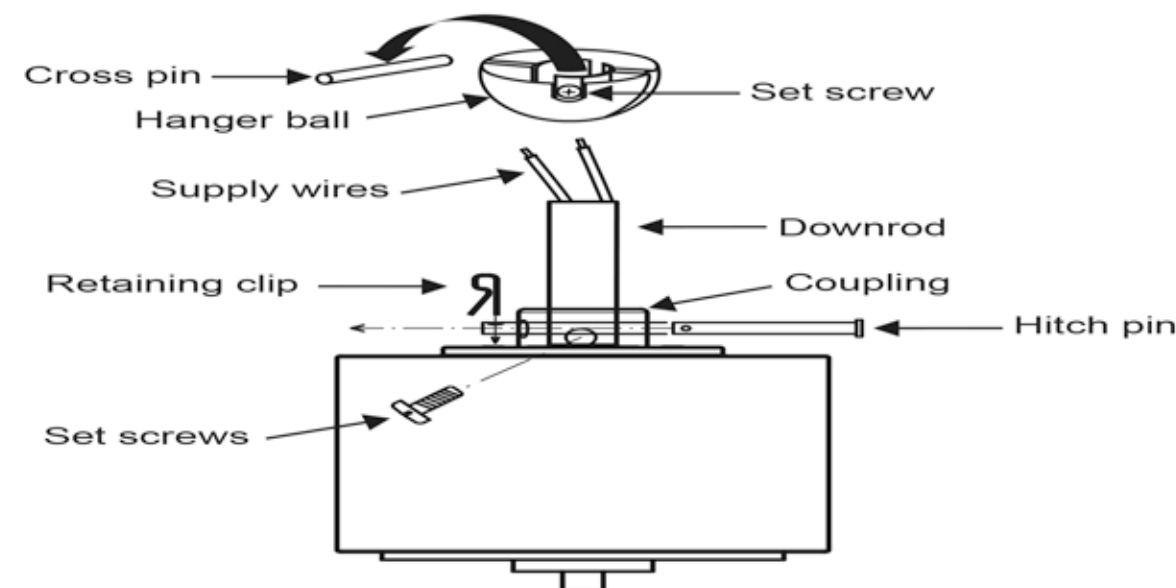

Fig.5
Step 4. Remove the hanger ball from the downrod assembly by loosening the set screw, removing the cross pin and unscrewing the ball off the rod. (Fig.5)
Step 5. Loosen the two set screws and remove the hitch pin and retaining clip from the coupling on top of the motor assembly. (Fig.5)
Step 6. Carefully feed the electrical lead wires from the fan up through the downrod. Insert the downrod into the coupling until the Hitch pin holes are aligned. (Fig.5)
**Step 1.** Connect the fan supply (black) wire to the black household supply wire as shown in Figure 5.